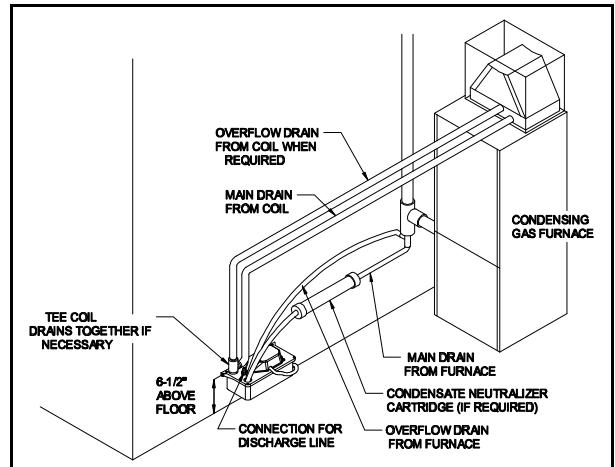
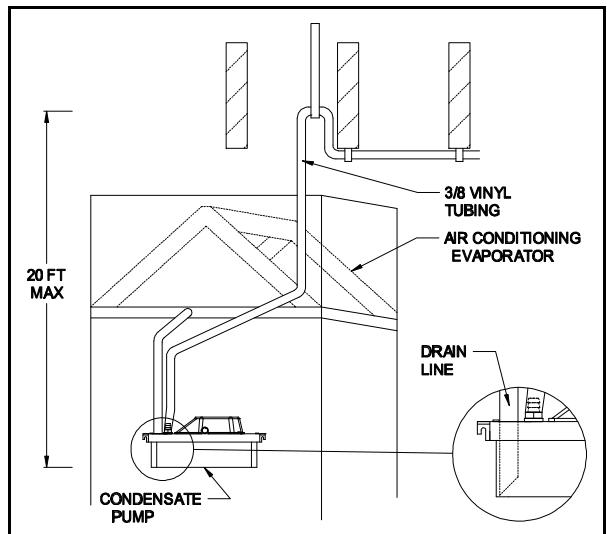

Figure 1
Figure 2
3. The pump should be mounted so the deck is at least 6 1/2" above the floor. (See Figure 1) This will allow clearance for the tank to be removed later for cleaning.
1. Run flexible tubing or pipe from the condensate drain on the evaporator pan and/or drain from furnace to one of the inlet holes on the pump. This drain line should have a continuous downward slope to allow gravity flow. Cut the end of the line at an angle so the end does not close off on the bottom of the pump's tank. (See Figure 2) **NOTE:** If there is an overflow drain from the evaporator pan or from the furnace, it may be necessary to tee the overflow and the main drain together before they enter the pump. (See Figure 1)
2. Connect a discharge line to the barbed check valve on top of the pump. This line may be flexible tubing or rigid pipe, but must be no larger than 3/8" I.D. Extend the discharge line straight up from the pump to the highest point possible without exceeding the head/GPH capacity of the pump before directing the line to the drain. From this high point, run the discharge line to a drain with a downward slope. For best results, the drain should be below or approximately level with the bottom of the pump tank. If it is not possible to slope the line downward, make an inverted "U" trap at the high point of the discharge line above the pump. (See Figure 2)